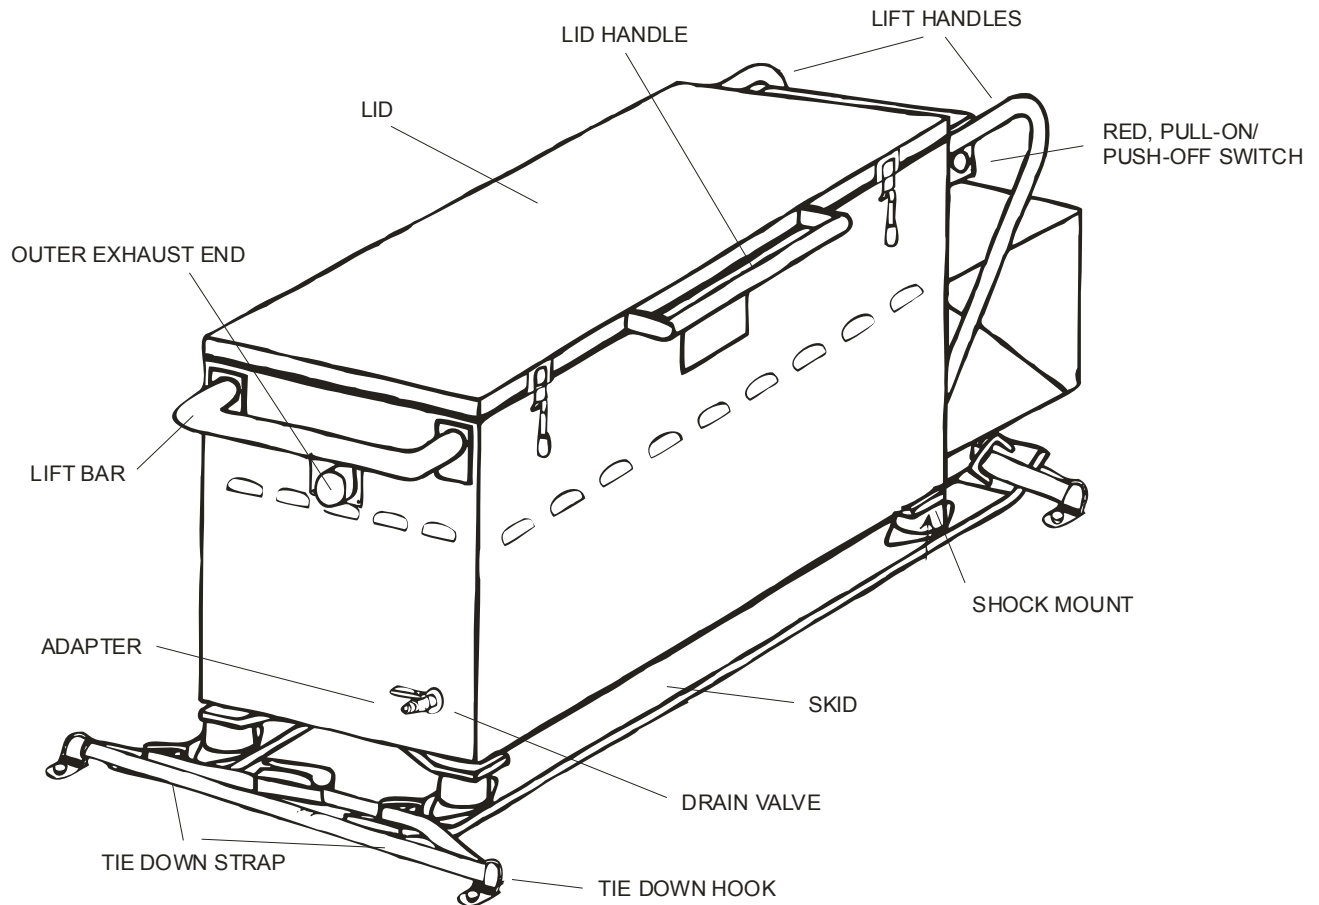

Figure 1-3. Tray Ration Heater
- a. TRH Tank. Figures 1-3, 1-4, 1-5, and table 1-2, contain identification of TRH parts and other TRH components.